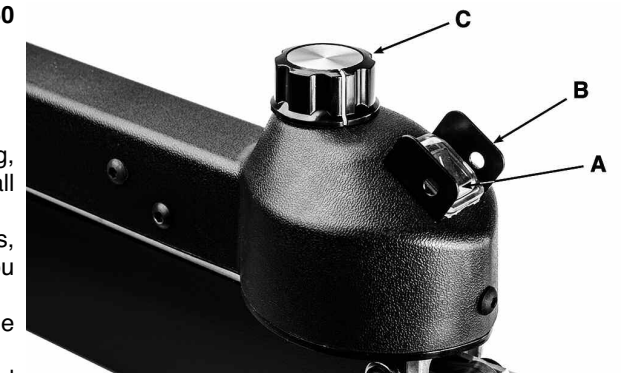

FIGURE 8
These Scroll Saws are equipped with a rocking On/Off power switch (A) Fig.8, featuring a plastic dust protection cover. Additionally, the switch can be locked out by inserting a padlock through the two holes (B).
The Scroll Saw blade speed can be adjusted by rotating the blade speed adjustment knob (C) Fig.8. Turn the knob clockwise to increase the blade speed, and counterclockwise to decrease the blade speed.